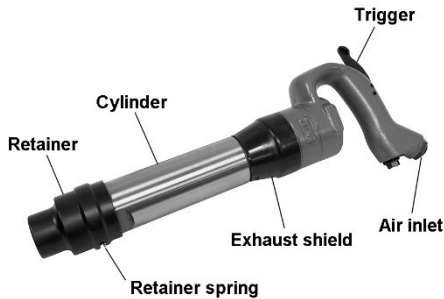

Figure 1
7. Remove protective cap from air inlet (Figure 1). If an in-line oiler is not being used, add 4 or 5 drops of air tool oil (not included) into the air inlet.